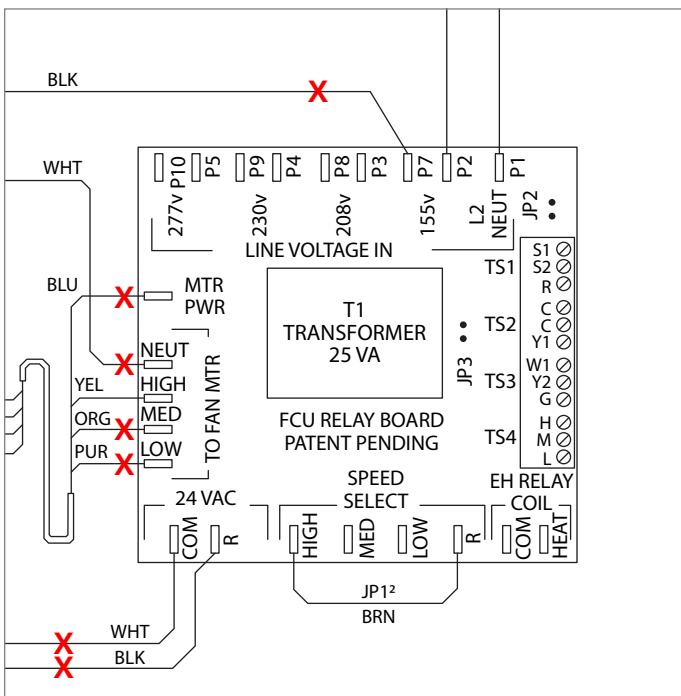

Figure 6 - Removing EC motor wires
- b. EC motors. (See Figure 6.)
- v. Remove BLACK wire from "LINE VOLTAGE IN" portion of FCRB. (**NOTE:** For dual motor units ONLY, there will be two wires connected. Remove butterfly/Y connector and remove both wires from connector). Exact location of wire will be determined by the unit's voltage. (115V shown in Figure 6.)